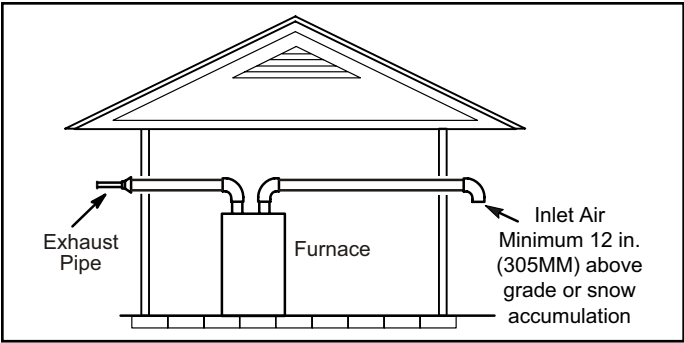
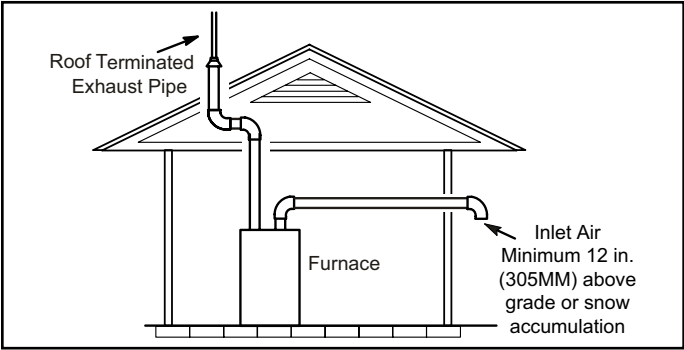

Figure 31. Exiting Exhaust and Intake Vent (no common pressure zone)
Figure 32. Exiting Exhaust and Intake Vent (no common pressure zone)
- 1. Intake and exhaust terminations are not required to be in the same pressure zone. You may exit the intake on one side of the structure and the exhaust on another side (Figure 31). You may exit the exhaust out the roof and the intake out the side of the structure (Figure 32).